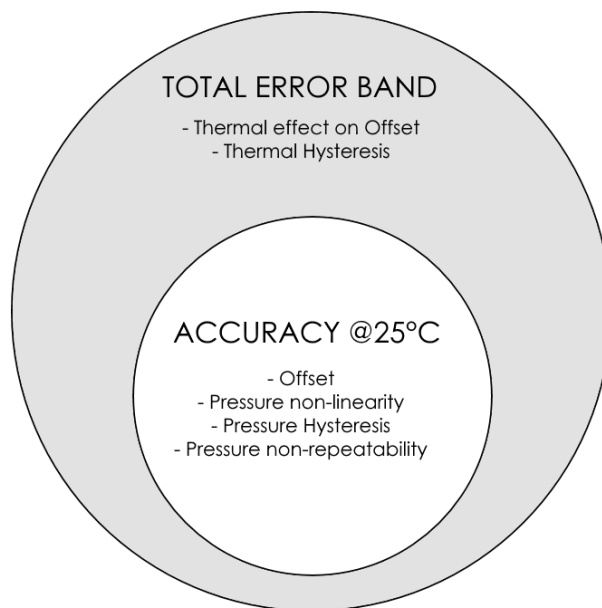

Figure 1.
- (3) Overpressure: The absolute maximum rating for pressure which may be safely applied to the product for it to remain in specification once pressure is returned to the operating pressure range. Exposure to higher pressure may cause permanent damage to the product.
- (4) Burst Pressure: The maximum pressure that may be applied to the product without causing escape of the pressure media. The product should not be expected to function after exposure to any pressure beyond the rated burst pressure. This rating is also the case burst rating of the product.
- (5) Total Error Band: The maximum deviation from the ideal transfer function over the entire compensated temperature and pressure range. Includes all errors due to offset, pressure non-linearity, pressure hysteresis, repeatability, thermal effect on offset, and thermal hysteresis. See Figure 1.